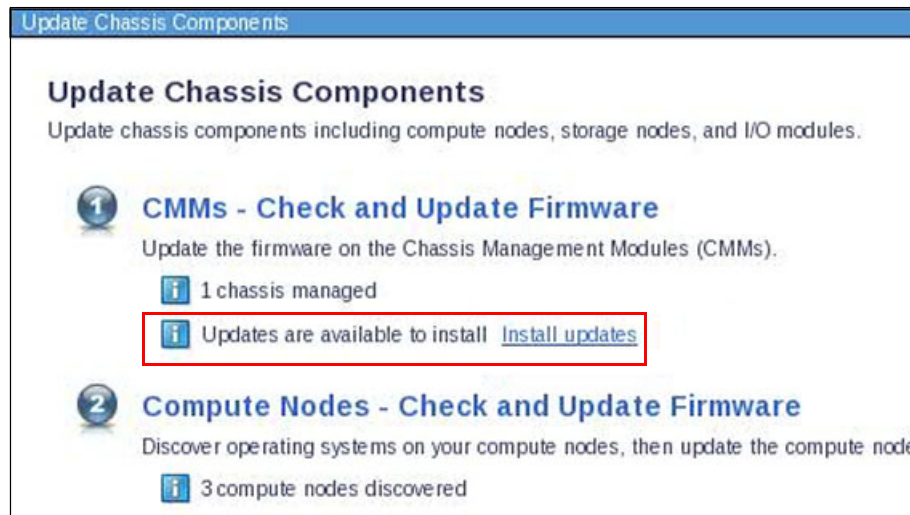
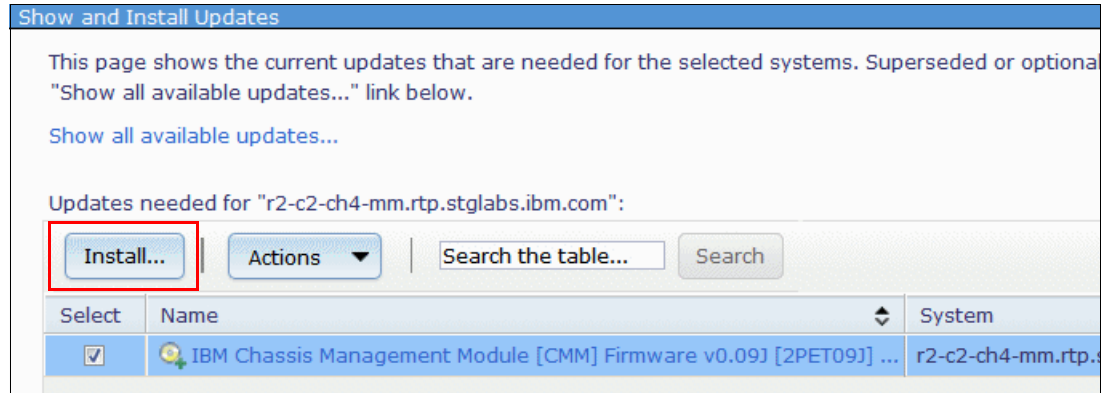

Figure 6-87 Update Chassis Components: CMMs
Figure 6-88 CMM Show and Install Updates window
The FSM can push firmware updates to the Chassis Management Module (CMM). When a Flex Chassis is set to managed, inventory is collected automatically. For more information about setting the Flex Chassis to be managed, see 6.3, “Selecting chassis to manage” on page 138. From this point, when updates are imported (either manually or from the IBM site) a compliance check is run against the CMM. This process compares any new CMM firmware with the currently installed CMM firmware. If a newer firmware is found, a message is displayed in the Update Chassis Components window as shown in Figure 6-87.
1. Click **Install updates** (see Figure 6-87 on page 199). A list of newer available firmware is displayed that can be deployed to the CMM, as shown in Figure 6-88. Select the update, and click **Install**.